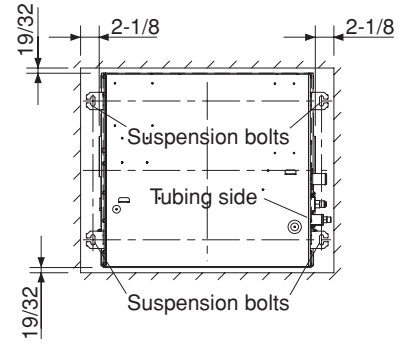

Fig. 3-37
(6) The distance between the unit and the opening of the ceiling and the distance between the bottom surface of the ceiling and the bottom surface of the flange of the unit should follow the dimensions given in Figs. 3-37 and 3-38.